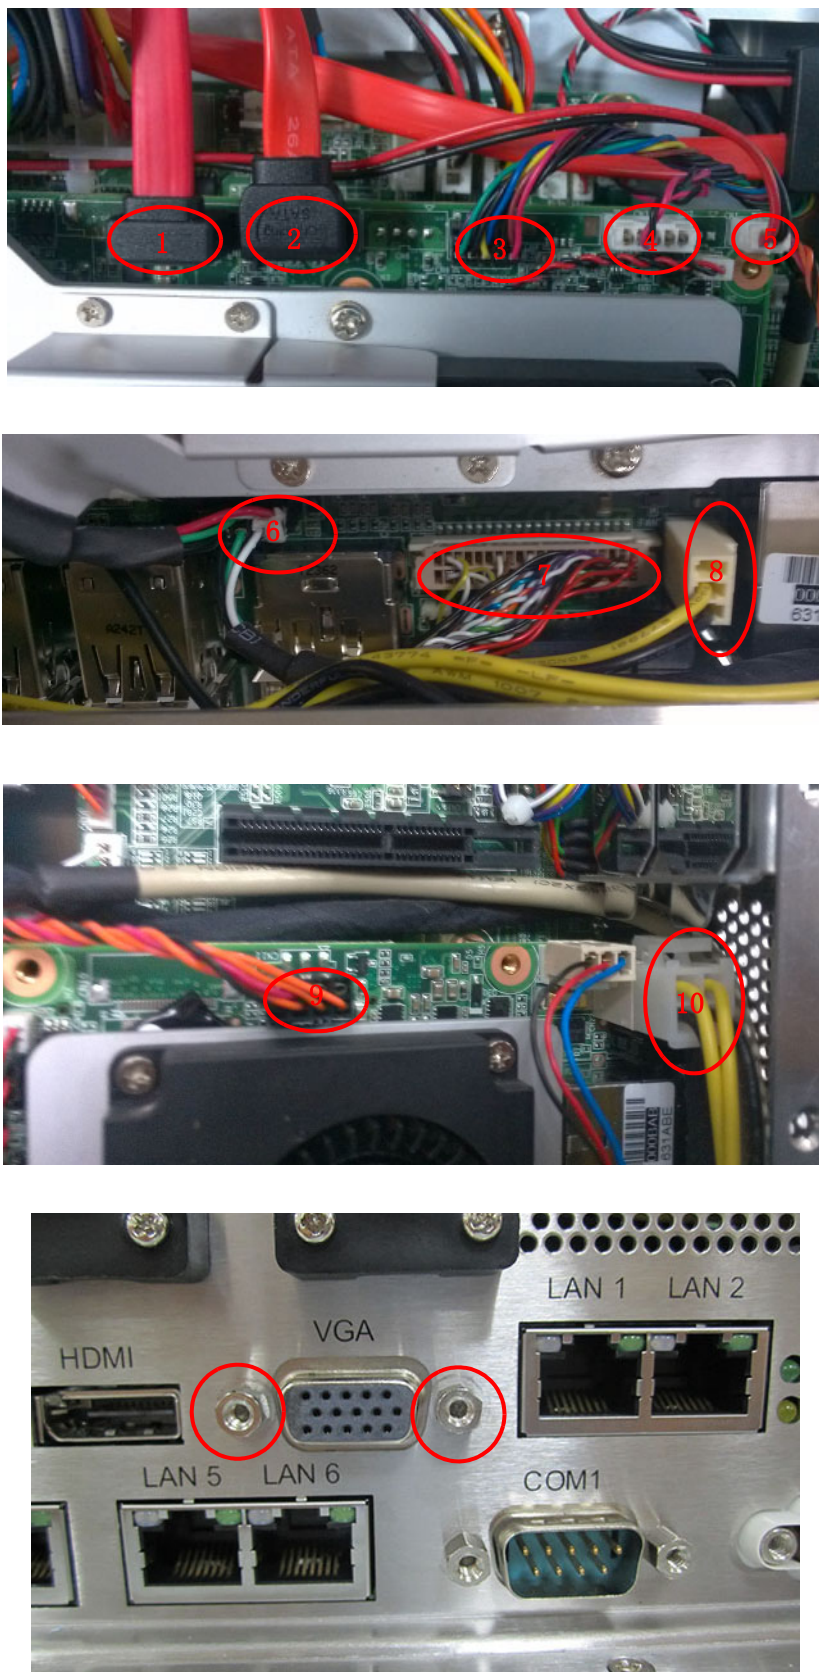

Figure 2.25
3. Unplug the cables beside the IO as shown below, and remove the 2 hexagonal screws in VGA of I/O back plate. Then vertically pull out MIO board. (See Fig 2.25)